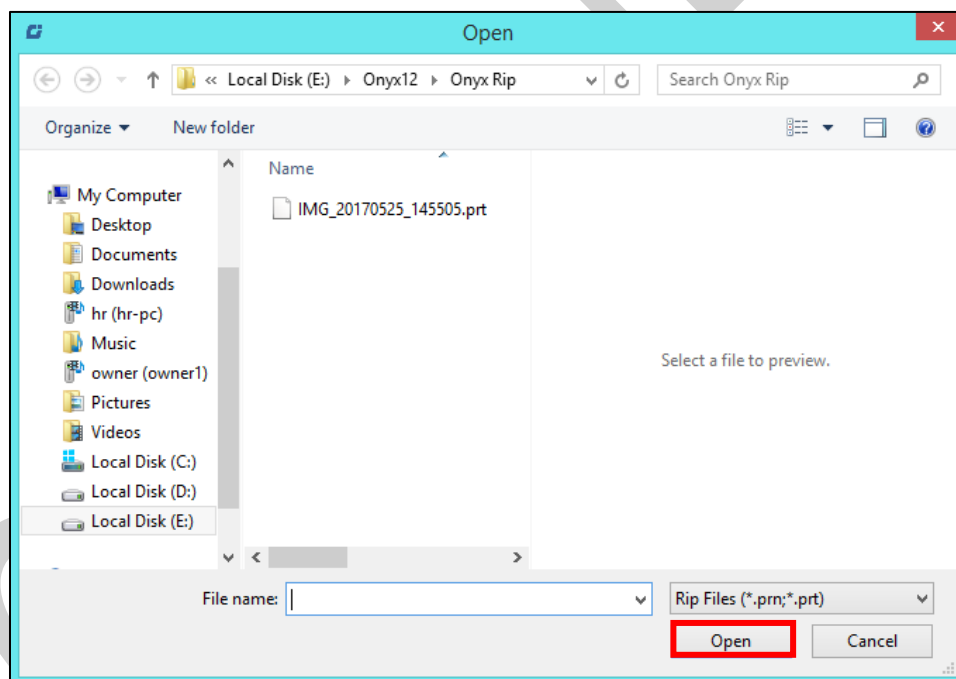

Fig 31: Adding the Job
**Step 2:** Navigate to the location where the image file with extension “.prt” and “.prn” is stored (Refer to Fig 31).